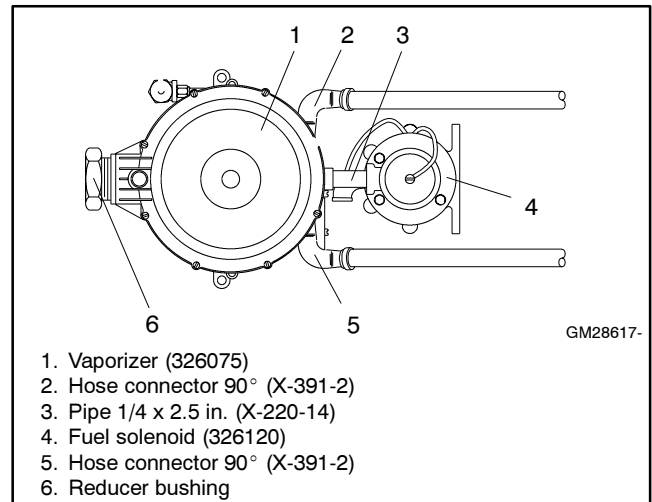

Figure 4 LP Vaporizer Installation
- 3.1 Apply pipe sealant to the male threads of the reducer bushing removed from the pressure regulator and install the reducer bushing in the vaporizer outlet (326075). See Figure 4.
- 3.2 Apply pipe sealant to the male threads of the existing pipe from the carburetor/fuel mixer and install the vaporizer and reducer bushing. Position the vaporizer as shown in Figure 4.
- 3.3 Apply pipe sealant to the male threads of one of the 90° hose connectors (X-391-2) and install the hose connector in the vaporizer water inlet. Position the hose connector as shown in Figure 4.
- 3.4 Apply pipe sealant to the male threads of the second 90° hose connectors (X-391-2) and install the hose connector in the vaporizer water outlet. Position the hose connector as shown in Figure 4.
- 3.6 Apply pipe sealant to the threads on the other end of the pipe nipple and install the fuel solenoid (326120). Position the fuel solenoid as shown in Figure 4.